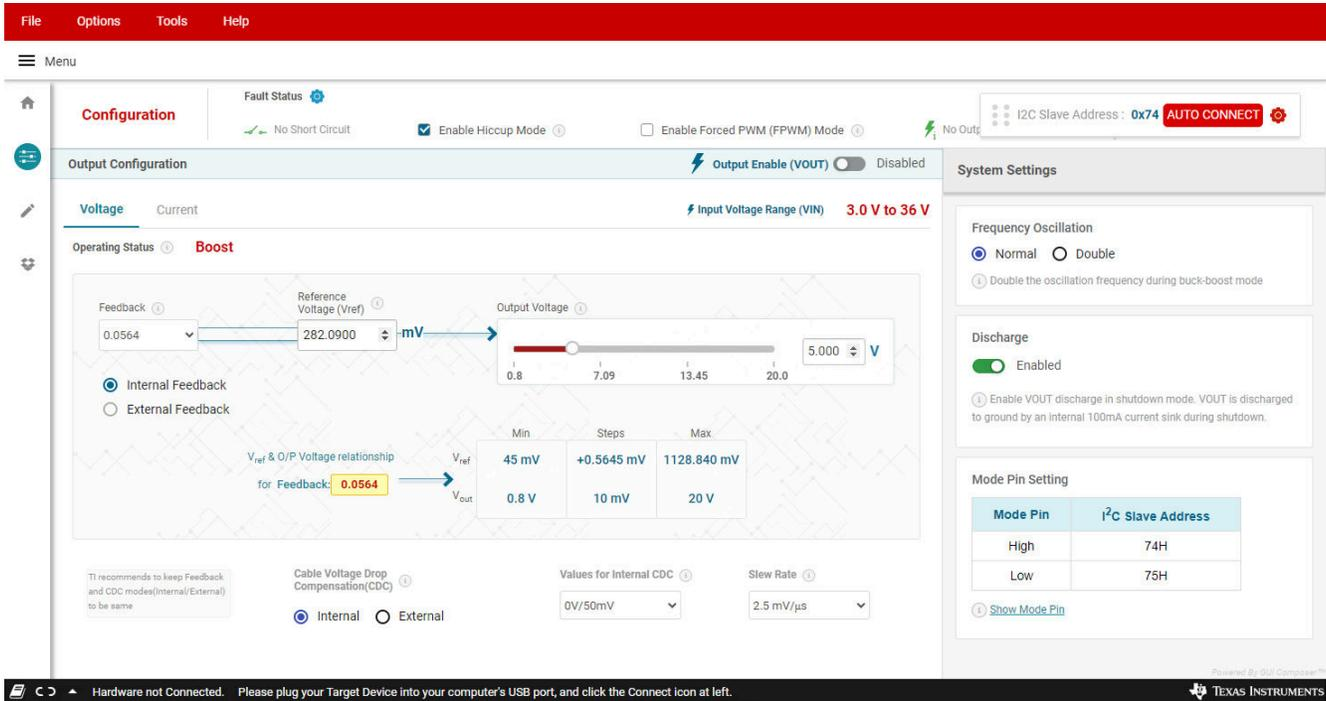

Figure 3-4. GUI User Interface of TPS55289Q1EVM-011
4. Click the start button. This shows the GUI user interface of TPS55289Q1EVM-011 (Figure 3-4).